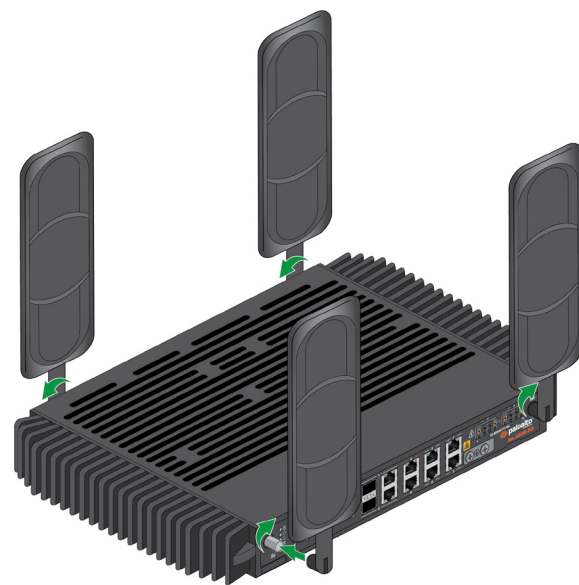

Figure 4
- 1 Secure the antennas to the SMA connectors located at the corners of the device. Make sure to tighten each antenna by hand. The antennas are fixed at a 90-degree orientation but can be repositioned after installation. See **Figure 4**.